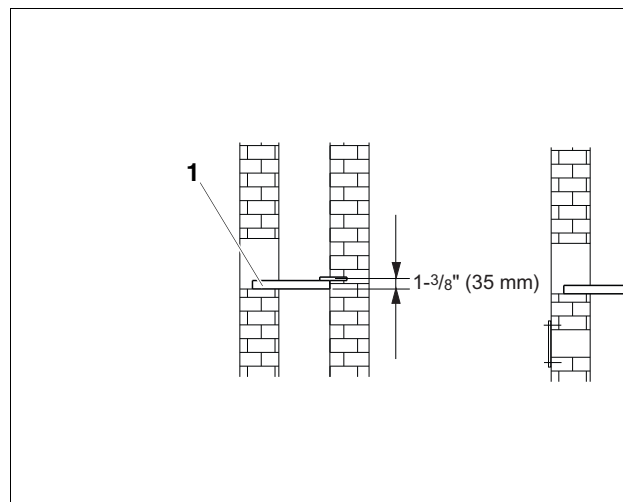

Fig. 7 Installing the support rail (dimensions in mm)
- Drill a $3/8$ " (10 mm) hole in the rear wall of the chimney, $1-3/8$ " (35 mm) above the bottom of the chimney penetration (Fig. 7).
- Shorten support rail (Fig. 7, **Item 1**) if necessary and carefully insert the rod into the hole.